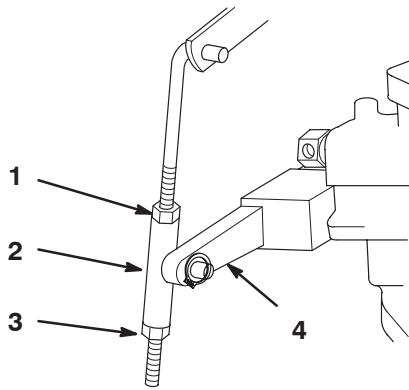

Figure 35
4. Loosen top and bottom jam nuts at pump arm neutral adjustment sleeve (Figure 35).
5. Push down on Pump Arm until Sleeve contacts bottom nut (Figure 35). Wheel should now be rotating slowly in reverse.
6. Turn bottom nut up slowly, moving sleeve and pump arm up, until wheel stops rotating (Figure 35).
7. Turn top nut down against sleeve and tighten to lock the adjustment (Figure 35).